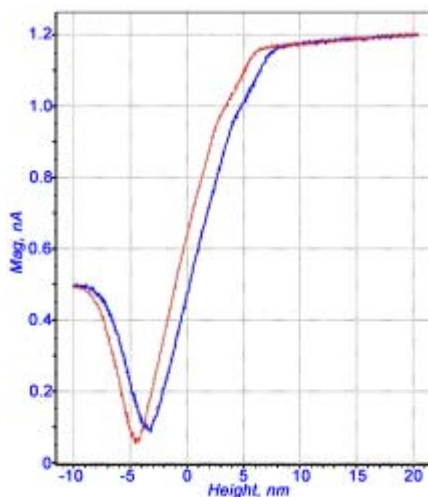

Fig. 1-13
6. Carefully adjust the height variation range to obtain a curve similar to that in Fig. 1-13.